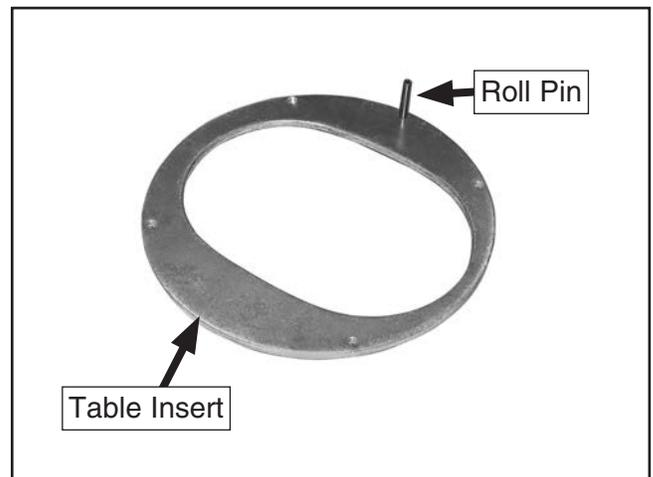

Figure 14. Inserting roll pins (bottom view).
- Insert one 5 x 28 roll pin into the non-threaded hole in each of the three table inserts, as shown in **Figure 14**. Make sure it does not extend through the surface of the table insert.